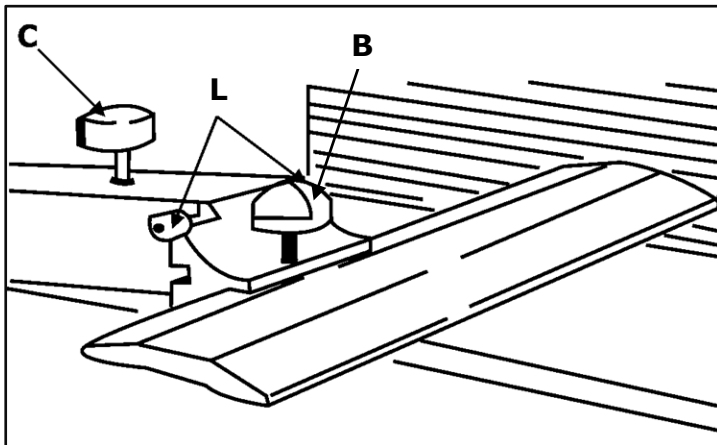

Figure 7: Adjust bridge guard
The two adjustment screws (L) can be used for this setting (on the front and back, see ⇒ Figure 7) , after removing the two protective caps.